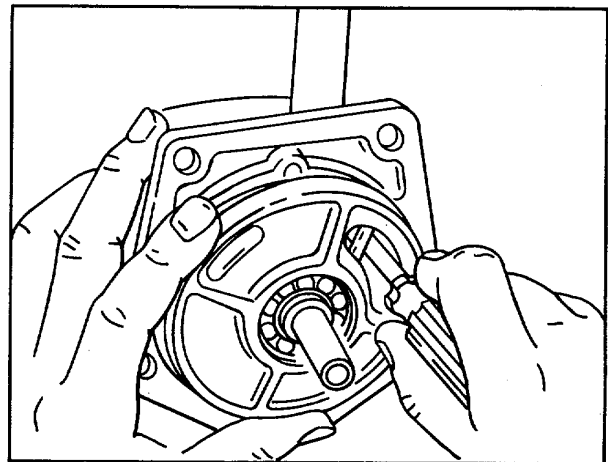

Figure 2. Removing or Installing Operating Shaft Fork
3. Turn the bearing retainer until the large opening is centered over the fork on the governor operating shaft (Fig. 2).